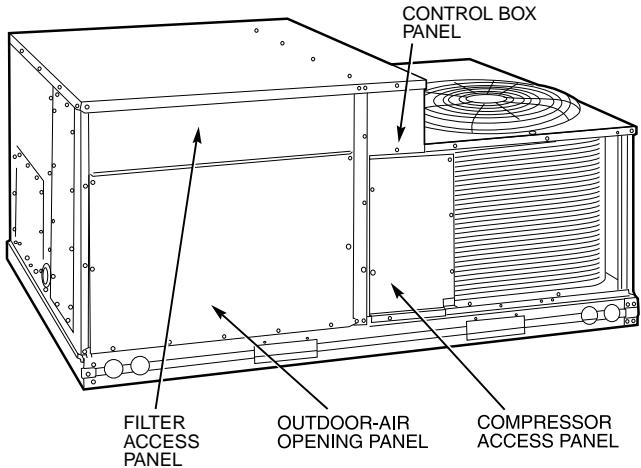

Fig. 17 — Typical Access Panel Locations
2. Remove filter access panel by raising panel and swinging panel outward. Panel is now disengaged from track and can be removed. No tools are required to remove filter access panel. Remove outdoor-air opening panel. Save panels and screws. See Fig. 17. Remove optional outdoor-air damper hood package from filter section.
- Remove filter access panel by raising panel and swinging panel outward. Panel is now disengaged from track and can be removed. No tools are required to remove filter access panel. Remove outdoor-air opening panel. Save panels and screws. See Fig. 17.